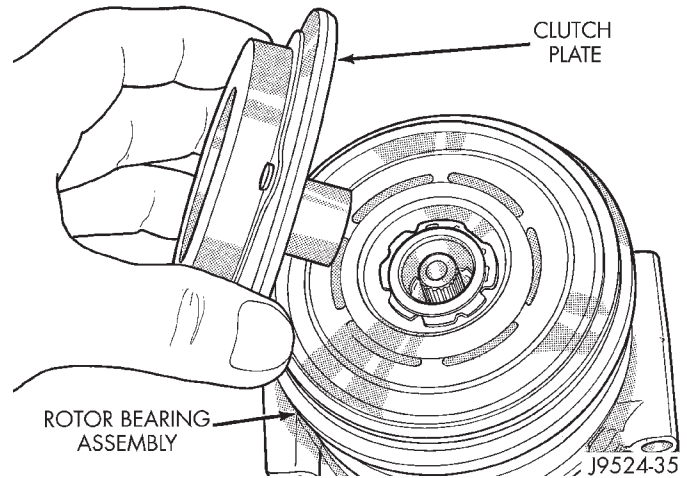

Fig. 12 Clutch Plate Remove/Install
(5) Remove the clutch plate (Fig. 12).